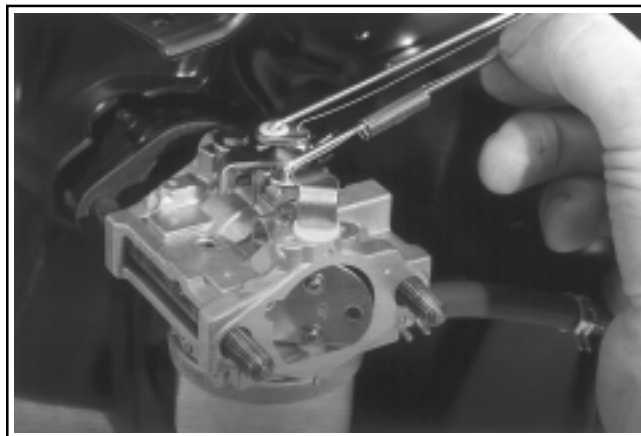

Figure 11-103. CS8.5-12. Attaching Choke Link and Dampening Spring.
3. **CS8.5-12:** Connect “Z” end of choke link and dampening spring to choke lever on blower housing or control bracket. Then connect the angled end of the link and spring into the holes of the choke lever on the carburetor as shown in Figure 11-103.